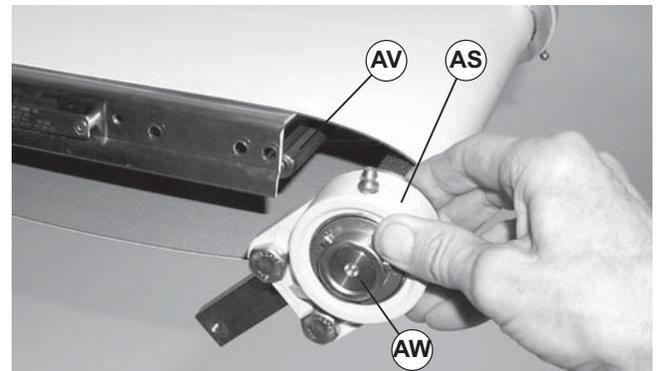

Figure 30
- Install bearing and head plate assembly (Figure 30, item AS) onto drive spindle (AW). Tighten two set screws to 34 in-lb (3.8 Nm). Check after 24 hrs. of conveyor usage.